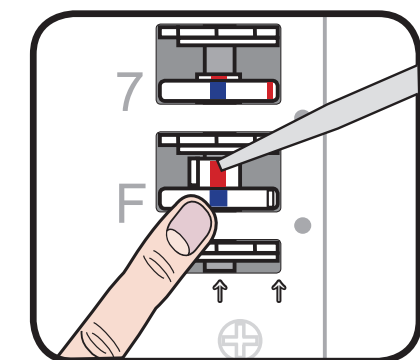

Fig.3
2. Whilst holding the inner gear the coding disk can be rotated using your finger. Rotate the disk until the blue line of the coding disk is in alignment with the centre line arrow (as per fig.3).